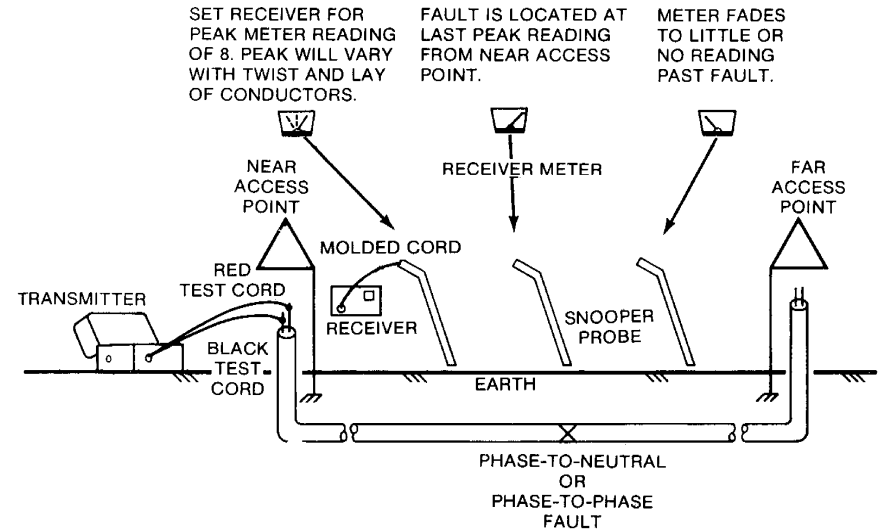

Figure 4-3.
4. Plug the jack end of the red/black test cord into the TRACING TONE jack receptacle on the transmitter (see Figure 4-3).